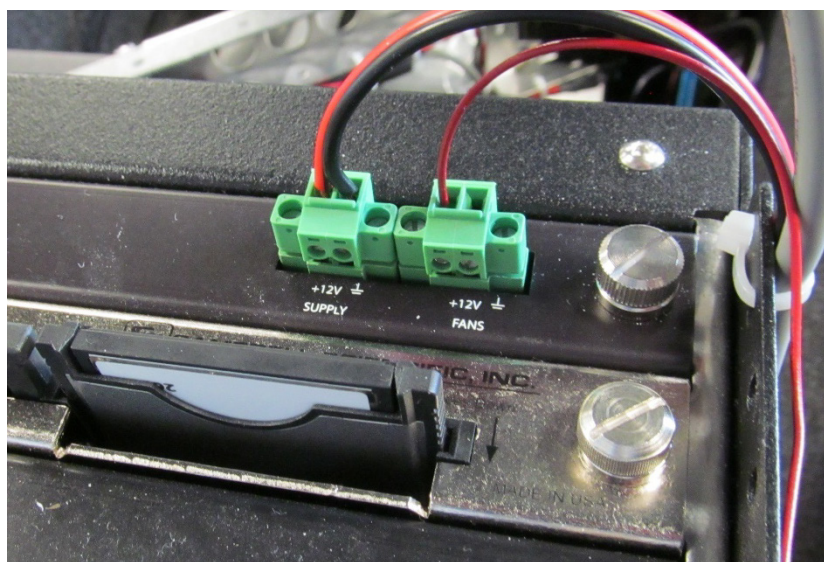

FIGURE A-1. Additional wire on TE-cooled lasers shipped after 1 Jan, 2018, shown connected to +12V FANS port on power supply module
13. Turn the analyzer off and connect the *Laser Current* connector. TE-cooled laser assemblies shipped after 1 Jan 2018 have an additional red wire with a green terminal block that must be connected to the **+12V FANS** port on the power supply module, as shown in FIGURE A-1.